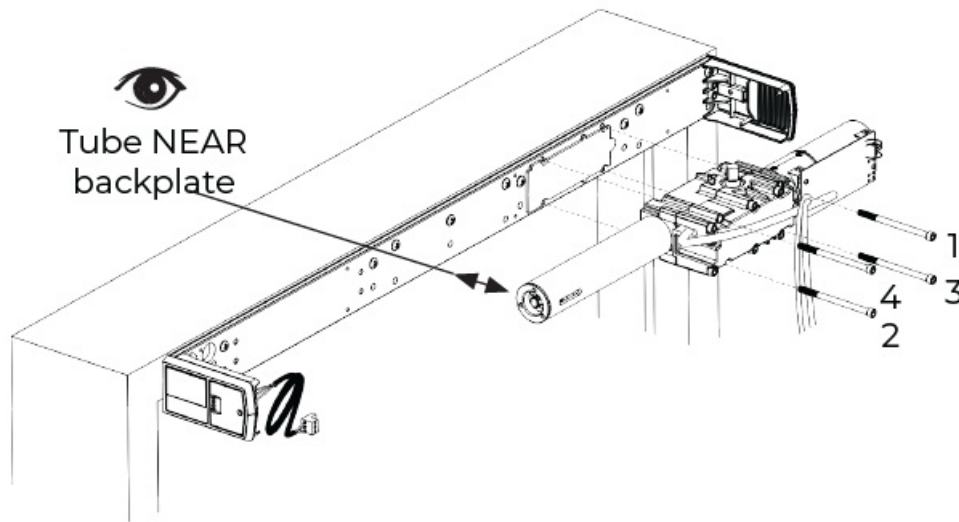

Figure 8
1. Using four (4) screws, install a closer body to the backplate. (Figure 8)
- Screws must be tightened in a cross pattern until all four (4) screws are tight. (Figure 8)
- The closer body is in the proper orientation for PUSH SIDE application when the tube is NEAR the backplate. (Figure 8)